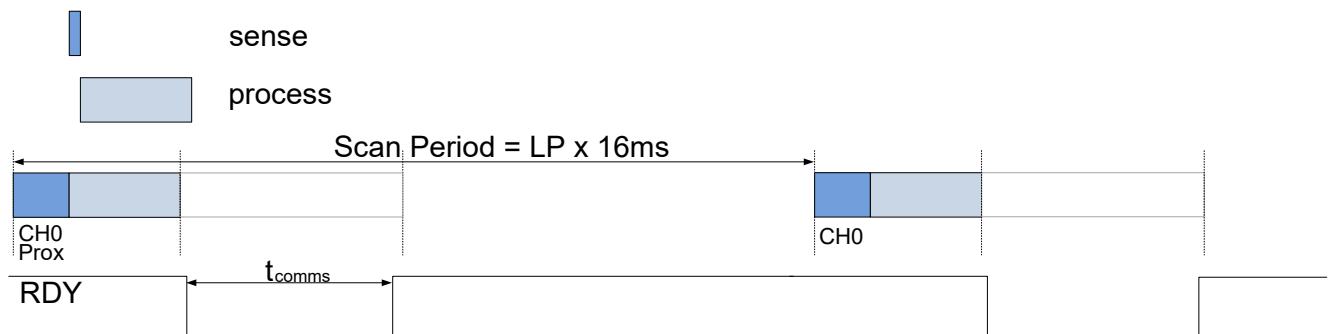

Figure 5.2 IQS360 Charge Cycle Timing in Low Power Mode.
NOTE: While in any power mode the device will zoom to Boost Power (BP) mode whenever the condition $(CS - LTA)^1 > \text{PROX_TH}$ or TOUCH_TH holds, indicating a possible proximity or touch event. This improves the response time. The device will remain in BP for t_{ZOOM} (4 seconds) after the last proximity event on CH0 is cleared and then return to the selected power mode. The Zoom function allows reliable detection of events with current samples being produced at the BP rate. The LP charge cycle timing is illustrated in **Figure 5.2**. The bit3 in Register 0x10, byte 0, will indicate if low power is active, or the device is zoomed in.
Adjusting the charge transfer speed will change the charge cycle duration (t_{CHARGE}) as shown in **Figure 5.2**.